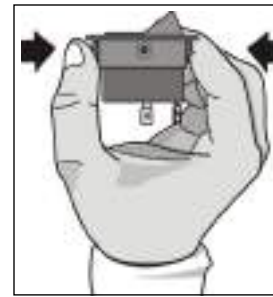

Figure 3-19: Rocker Switch
- The accessory on/off rocker switches are held by knurled plastic wings (or tabs). Compress the wings (or tabs) on one side at a time to release the switch body, then push it up and out of the slot. **See Figure 3-19.**